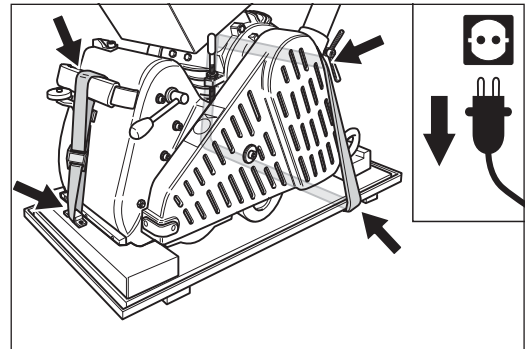

Fig. 45 Transport or storage of the machine on the bottom part of the transport crate.
- During transport or storage, the machine can also be firmly lashed to the bottom part of the supplied transport crate using two belts (fig. 45)! This will prevent damage to the sanding drum and stop the wheels becoming out of round!
When storing for long periods, place the machine on the bottom part of the supplied transport crate (fig. 45)! This will prevent damage to the sanding drum and stop the wheels becoming out of round!